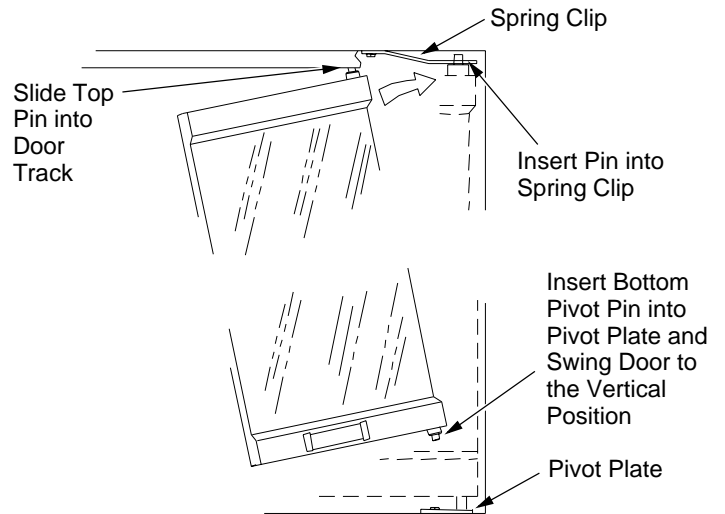

Figure 5 - Installing Glass Door
2. With cabinet door open, insert the bottom pivot pin into the pivot plate located near the bottom corner of the front face opening. Swing door to the vertical position, making sure top pin slides into door track. Door is installed when top door pin snaps into spring clip (see Figure 5).